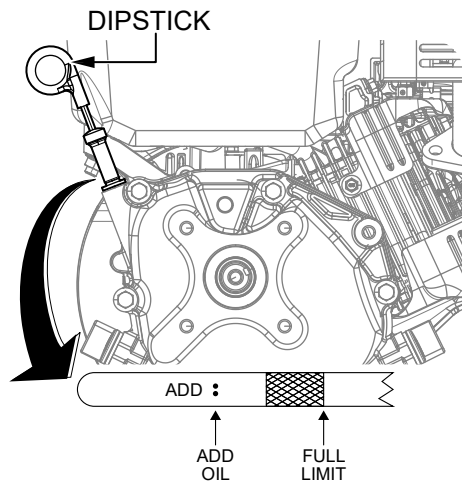

Figure 20. Engine Oil Dipstick
2. Remove the dipstick (Figure 20) from the engine oil filler hole and wipe it clean.
3. Reinsert the dipstick, then remove it again and check the oil level shown on the dipstick (Figure 20). The correct oil level is at the top of the full indicator on the dipstick.